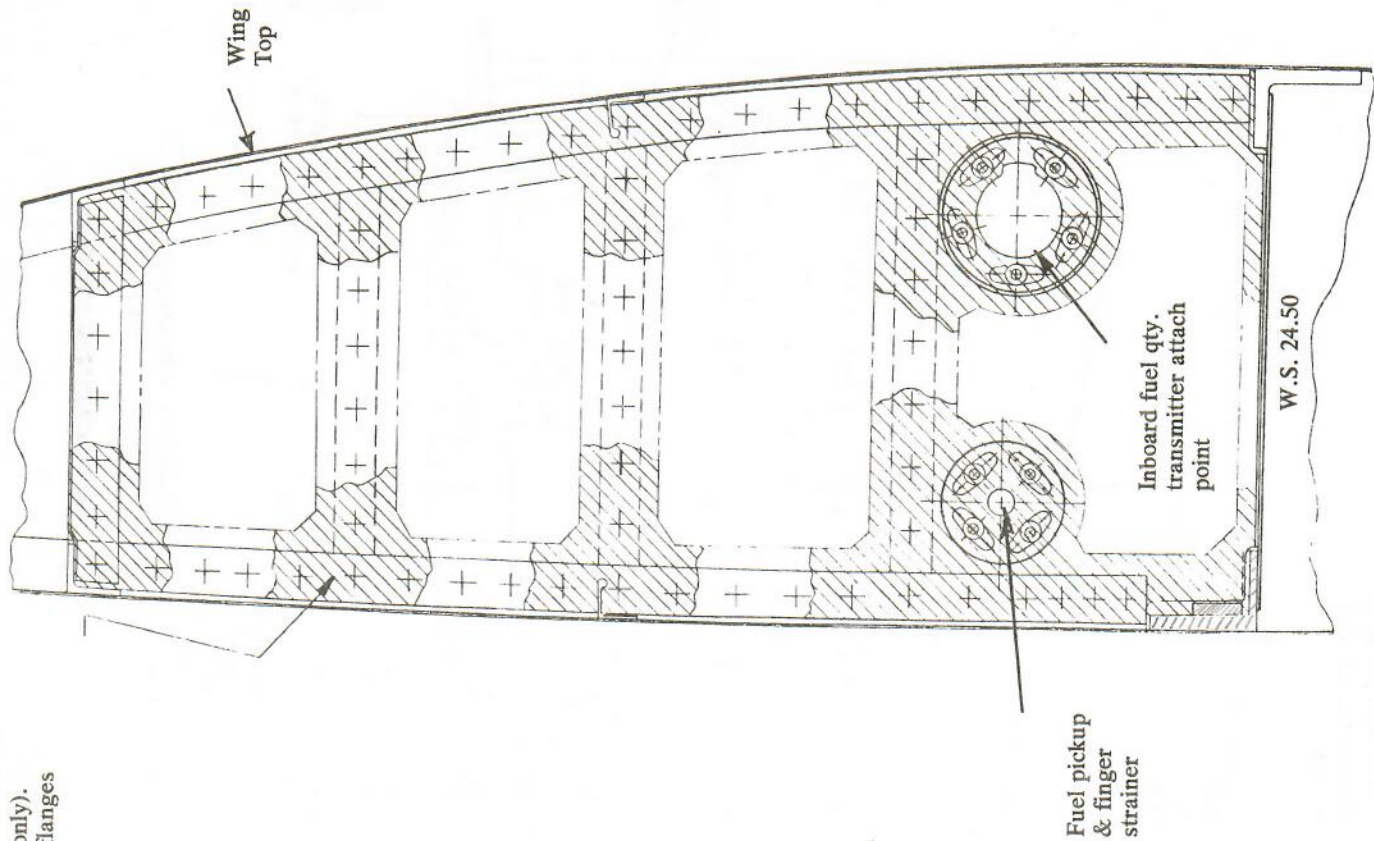

FIGURE M20-230-2
4. Inspect each rib station (refer to Figure M20-230-2 thru -7) to determine that all fuel passage holes are open to allow fuel to drain from outboard of rib stations to the fuel tank sump area.
6. If inspection determines all holes are **OPEN** in the appropriate ribs as shown in figures M20-230-2 thru -7 this portion of inspection is completed. Proceed to Step 8.
7. If inspection determines all holes are **NOT OPEN** in the appropriate ribs as shown in Figure M20-230-2 thru -7 proceed as follows: